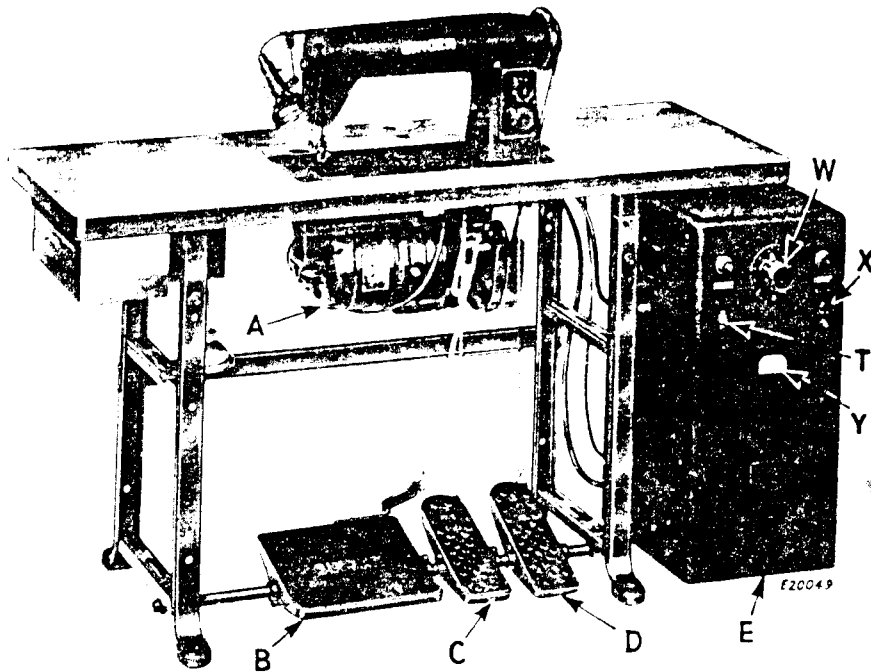
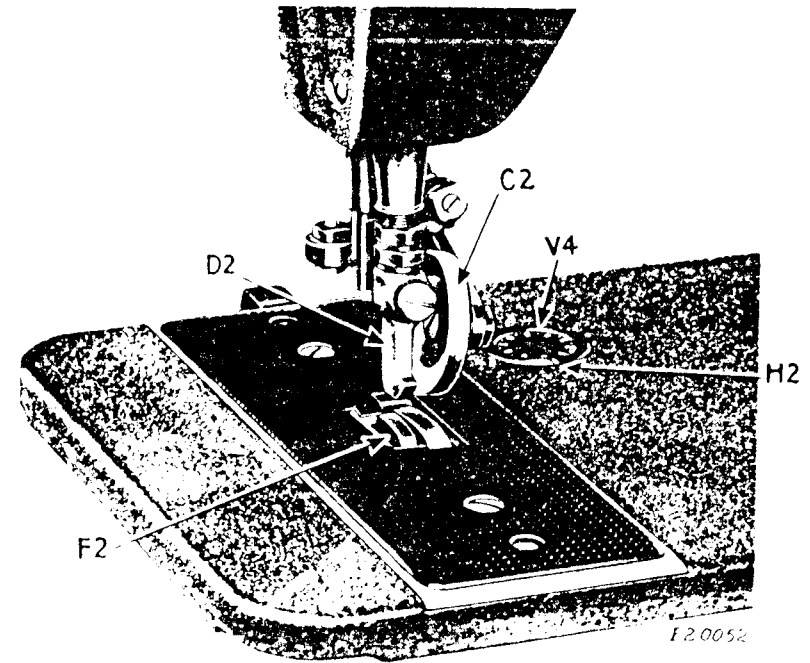
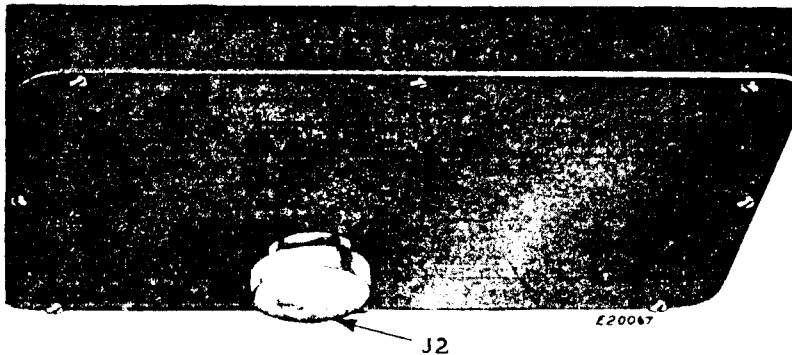

Fig. 7. Front View of Oscillator, Transmitter and Control Treadles
Fig. 8. Roller Presser, Bonding Foot, Lower Electrode and Tuning Dial
Fig. 10. Tuning Knob at Under Side of Machine
With all connections made as instructed under "To Set up the Equipment," page 4, turn the powerstat knob **W**, Fig. 7, on the front of the oscillator, to between 52 and 55 on the series of numbers surrounding this knob. Then turn on the power switch **X**, Fig. 7. The "on" position is indicated by a yellow light immediately above the switch **X**. This switch provides the current for the transmitter motor **A** which drives the Electronic Seamer.
**NOTE**—With the switch **T** "on," the high frequency current is constantly at the electrodes **D2** and **F2**, Fig. 8 even while the machine is not actually running. Therefore, provision is made, by means of treadle **B**, Fig. 7, to apply the high frequency current to the electrodes only as required for the bonding operation while the switch **T** is in "off" position.
Place the material beneath the bonding foot **D2**, Fig. 8, page 9 and the roller presser. Release the treadle **C**, Fig. 7, page 8, or let down the hand lifting-lever at the rear side of the machine head, to lower the bonding foot upon the material. Depress the treadle **B**, Fig. 7 to engage the transmitter clutch which drives the feed mechanism of the Electronic Seamer and, at the same time, operates the micro-switch at the rear side of the transmitter to apply the high frequency current to the electrodes.
While the material is being fed through, observe the result of the bonding. If there is no seam, or bond, or if the seam appears indefinite, turn the tuning knob **J2**, Fig. 10 until a distinct seam appears and the highest reading is obtained on the millimeter **Y**, Fig. 7. This tuning knob is conveniently reached beneath the table.
To determine definitely whether or not the plies of material are satisfactorily bonded, remove the material from the machine and test the seam by pulling the material away from the seam. If the material tears at the seam, while the seam remains intact, the bonding may be considered satisfactory. However, if a complete revolution of the tuning knob **J2** fails to produce a satisfactory seam, the need of higher power is indicated. In such case, turn the powerstat knob **W**, Fig. 7, page 8 to a somewhat higher setting and try again until a satisfactory bond is produced. At this point observe the number of the mark **H2**, Fig. 8, page 9 on the tuning dial **V4**, Fig. 8, so that the same tuning can be applied for further bonding of the same material.
Set the knob **R2** to produce a low speed and, when extra plies of material are encountered during the bonding operation, depress the compensating feed treadle **D**, Fig. 7. This will slow the feeding action and is designed to provide the extra time required for bonding additional plies of material. Release treadle **D** after the additional plies of material have been crossed and bonding is resumed on the fewer plies of material.